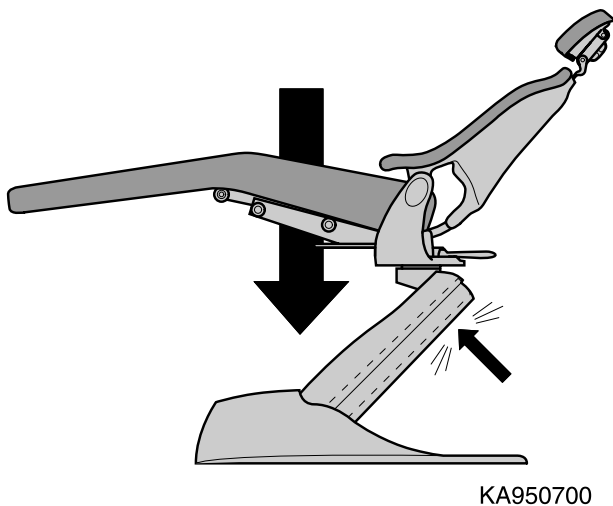

Figure 2-5. Safety Bail Limit Switches.
- (15) Depress Base Down membrane or foot switch. As chair descends, push upward on bottom lift arm cover until one or both of the Safety Bail Limit switches operate (Refer to Figure 2-5).